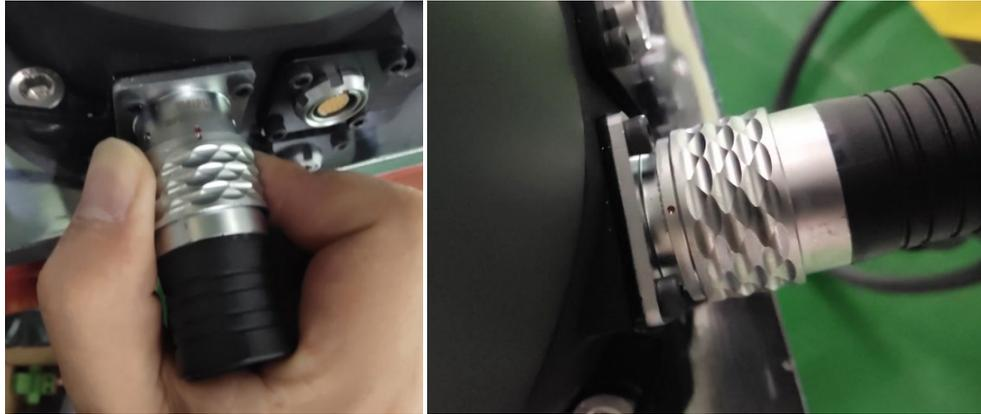

Figure 5-11 Power cable plugging diagram
Step 2 Insert one end of the "power cable" aviation plug into the 48V d.c. power interface of the robot body. The aviation plug is quick-plug type. To connect the aviation plug, align the red point on the aviation plug shell with that on the aviation socket of the 48V d.c. power interface. Hold the aviation plug and insert it to the end until a "click" sound is heard from the metal shrapnel, which indicates that it has been inserted in place. The proper insertion of the aviation plug is shown in Figure 5-11.